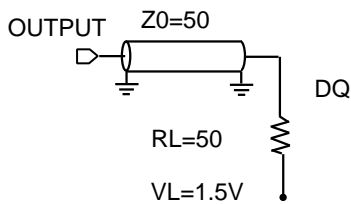
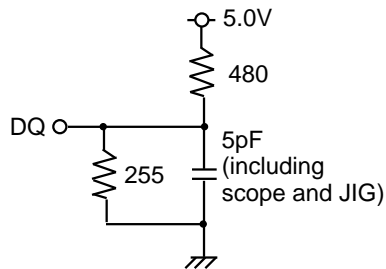

Fig.1 Output load
Fig.2 Output load for t_{en}, t_{dis}
(1) MEASUREMENT CONDITION
- Output loads Fig.1, Fig.2
4. Transition is measured $\pm 500\text{mV}$ from steady state voltage with specified loading in Figure 2.